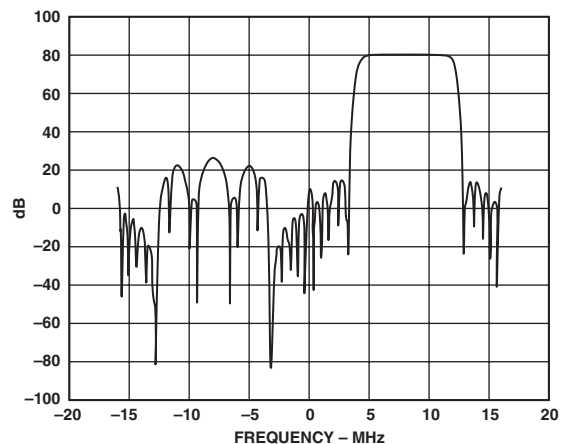

Figure 5. Tx Hilbert Filter, Keeping Positive Frequencies Spectral Plot
The Hilbert filter is available to provide a Hilbert transform of "real" input data at a low intermediate frequency (IF) between 12.5% to 38% of the input data rate. The Hilbert filter essentially transforms this "real," single channel input data into a complex representation (i.e., I and Q components) that can be used as part of an image rejection architecture. The complex data can then be processed further using the on-chip digital complex modulators. The Hilbert filter requires  $4\times$  interpolation to be enabled and accepts data at a maximum 32 MSPS. Figure 5 shows a spectral plot of the Hilbert filter impulse response.